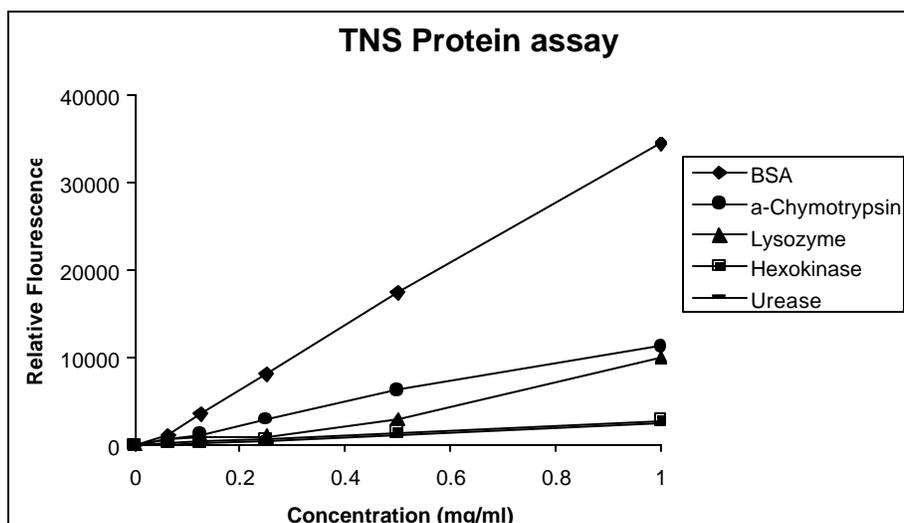

Figure 1. Assay performed with proteins in native confirmations (Buffer A).
To perform the assay on protein samples in their native conformations, dissolve samples in Buffer A and make serial dilutions with the same buffer to give concentrations of 1mg/mL, 500µg/mL, 250µg/mL, 125µg/mL, and 62.5µg/mL. To run the assay on proteins in their denatured state, dissolve in Buffer B and perform the same dilutions in Buffer B as above. Co-assay with the BSA Reference Standard is recommended. To run the reference standard assay, perform serial dilutions of Standard A in Buffer A (native) and Standard B in Buffer B (denatured) to yield the same concentrations as that of the protein samples. To a 96-well microtiter plate well, add 100µL of fluorescent reagent (A) (1mM TNS (free acid)/10% DMSO) and 100µL of each protein sample or standard dilution in triplicate. For the control, add 100µL of fluorescent reagent (A) and 100µL of respective buffer. Best results are typically found 1-2 hours after the protein samples are introduced into the 1mM TNS/DMSO solution. Fluorescence readings can be measured with emission and excitation filters set at 465nm and 360nm, respectively. Data can be plotted as shown below in Figures 1 and 2. Calculated hydrophobic surface area data can be obtained at the following Web site: <http://www.rcsb.org/pdb/> (The Protein Data Bank).